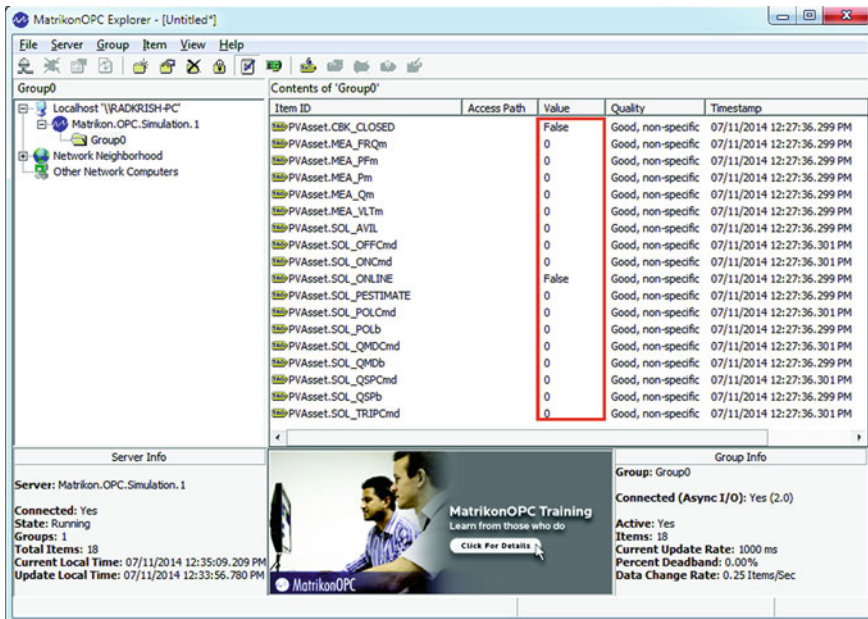

Fig. 16.13 MatrikonOPC server explorer—list of tags for observation and control
10. Click OK to add all the tags to the observation list in the OPC server explorer as shown in Fig. 16.13. Check that the qualities of tags are reading good and the values for the data tags are all zero. The values are zero because the simulation has not started; the OPC server has not received any values from the Power-Factory simulation engine.